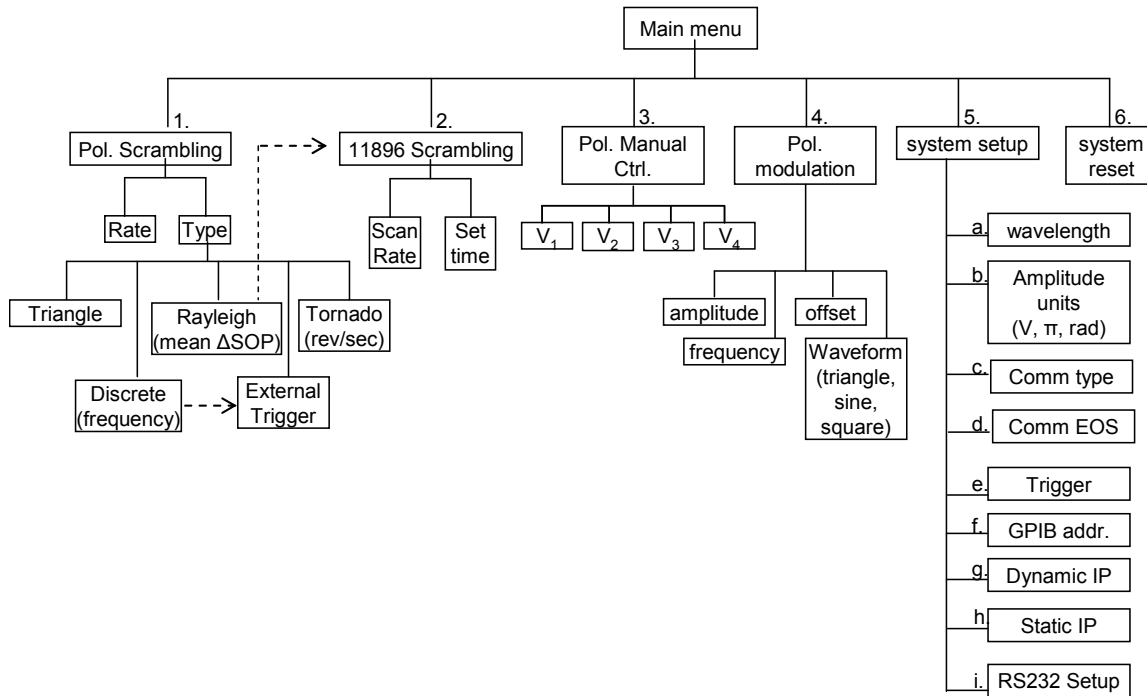

Figure 8 System Menu Tree
3. Turn on the instrument. It will run through an initialization sequence, during which the OLED screen will display the instrument identification. Once the initialization is complete, it will display the mode selection options (items 1-6 in the first level of the menu tree shown in Figure 8).